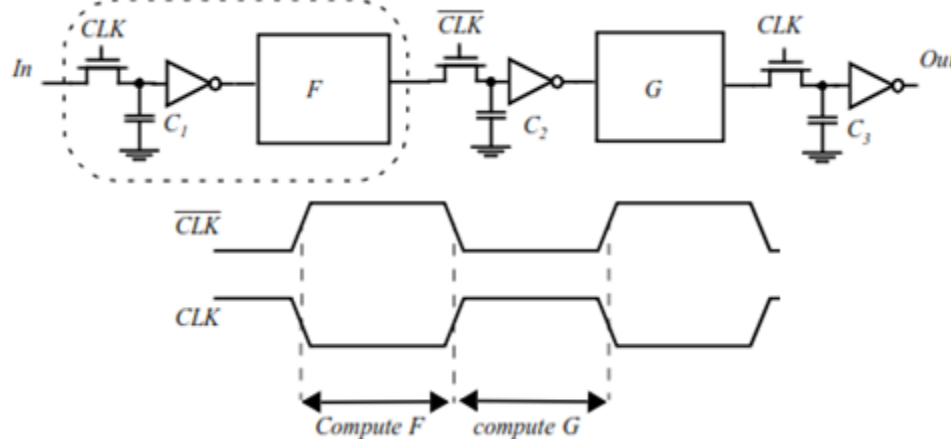

Figure 3.23 Operation of two-phase pipelined circuit using dynamic registers.
- Consider the pipelined circuit of Figure 3.23.